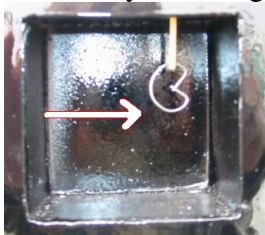

Fig. 3
3. Rotate key to the right 90 degrees (fig. 3.)